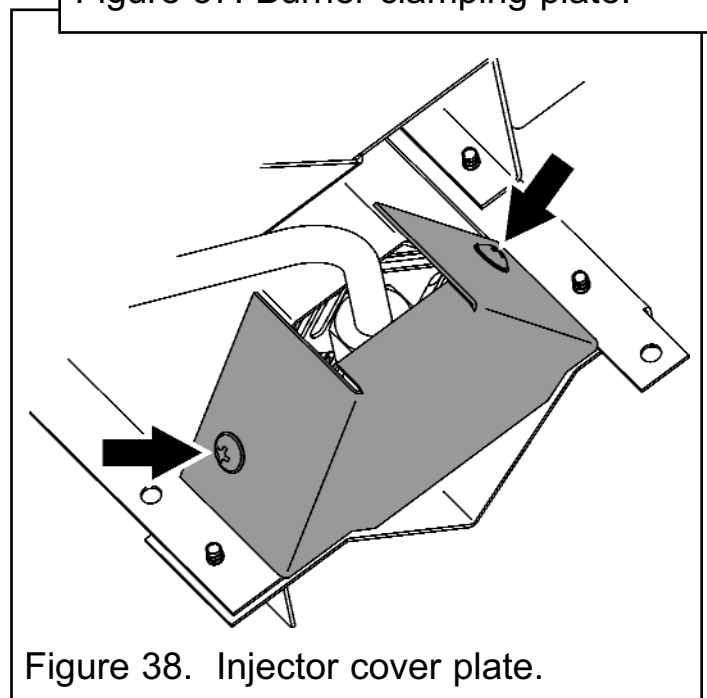

Figure 38. Injector cover plate.
3. Unscrew and remove the injector cover plate from underneath the burner (See figure 38).